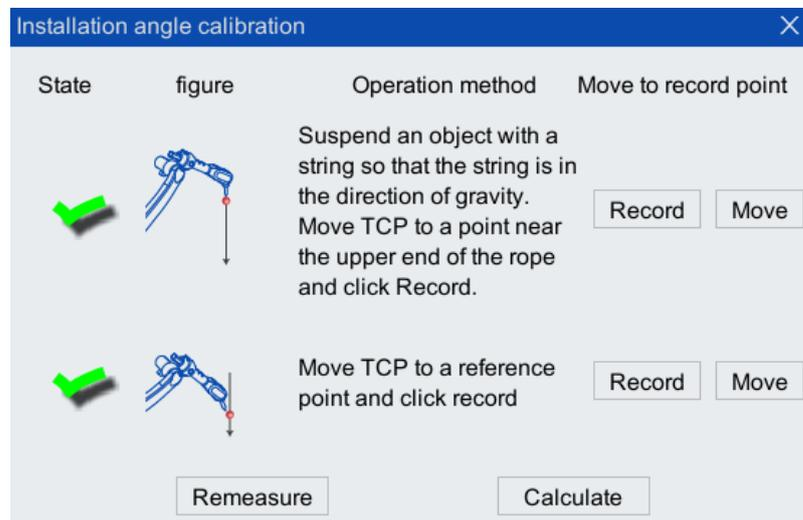

Figure 5-99 Successfully calibrated interface
Step2. Move the TCP to the reference point and click <Record>. Change ✘ to ✔ as shown in Figure 5-99.